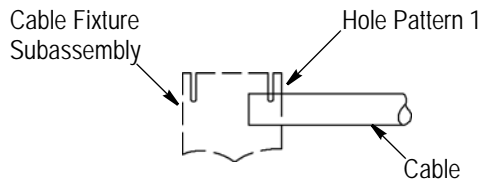

Figure 6
8. Insert the squared cable end into Hole Pattern 1 of the cable fixture subassembly. Refer to Figure 6.
9. Place a saw in the saw slot (Figure 6) and while rotating the cable, cut through the cable jacket and into, but not through, the dielectric.